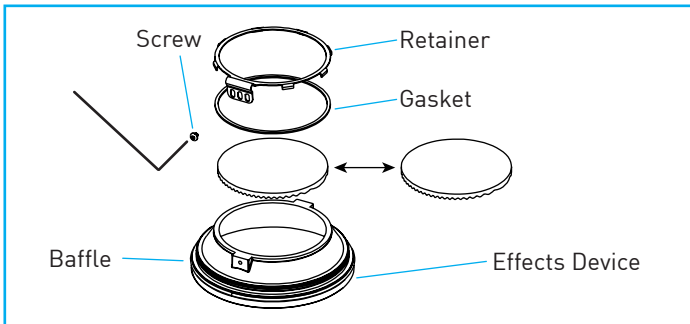

Fig.48
C. To change lens / film, remove lens retainer and gasket by loosening and removing screw. Insert preferred lens / film in proper orientation, securing with lens retainer / gasket and replacing and tightening screws "Fig.48".